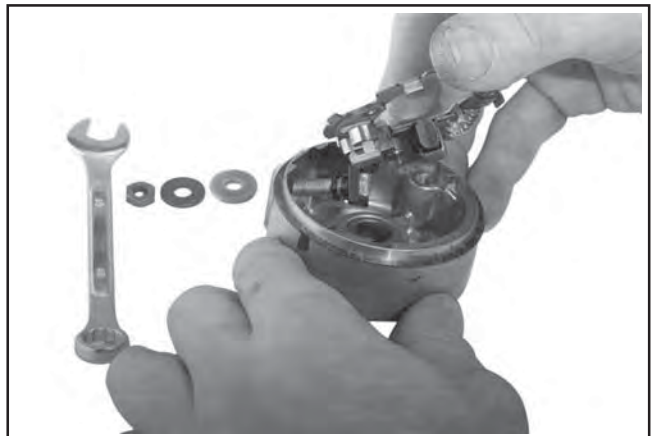

Figure 8-43. Removing Brush Plate.
1. Remove the lower jam nut, metal washer, insulating washer, and O-Ring from the positive (+) stud. Carefully push the stud inward to separate the brush plate assembly from the end cap. See Figure 8-43.